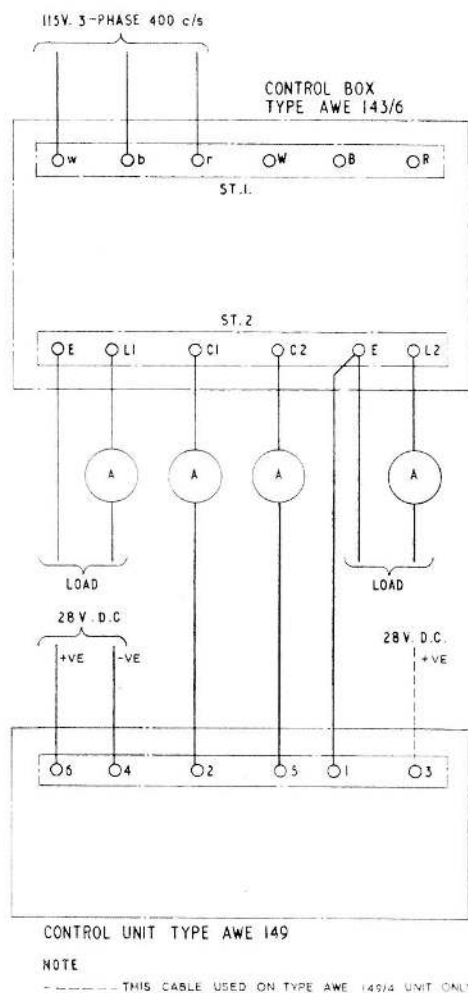

Fig. 1. Test circuit
3. (1) Connect the control box to the test circuit as shown in fig. 1, with the testmeters in the (control unit) potentiometer circuit set to 0.01A, and in the load circuit set to 0-10A.